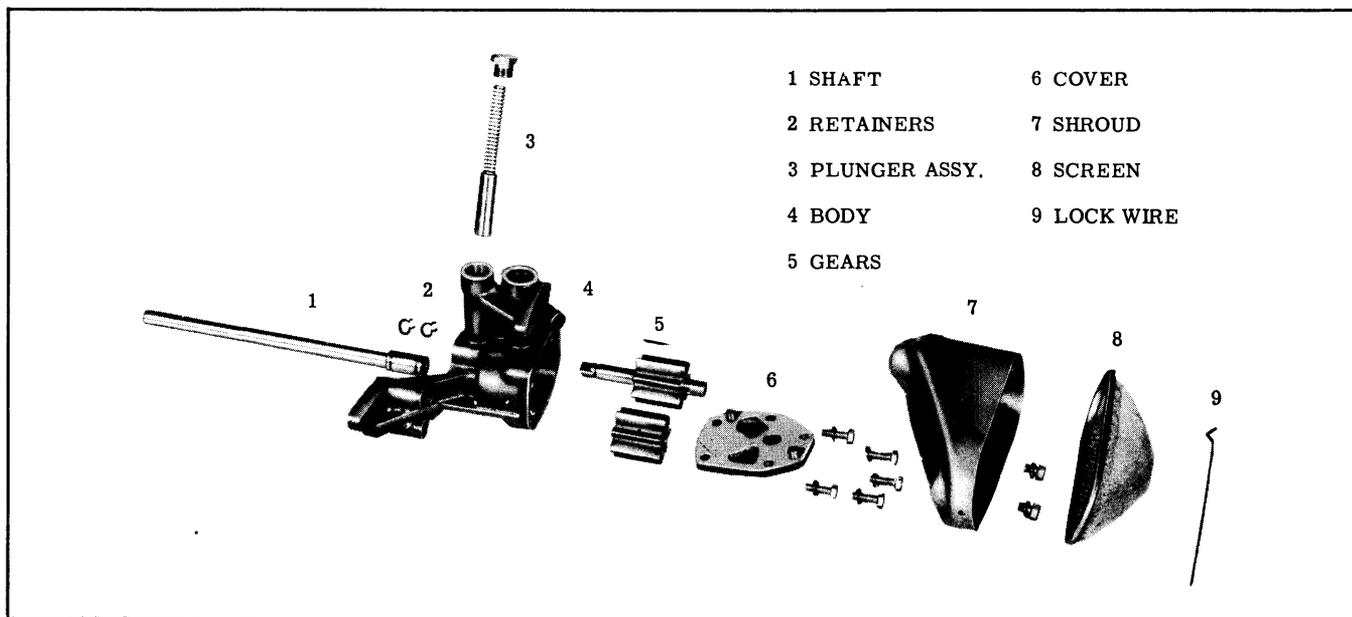

Fig. 8-20 Oil Pump Assembly Detail
3. Remove oil screen lockwire and screen. (See Fig. 8-20)